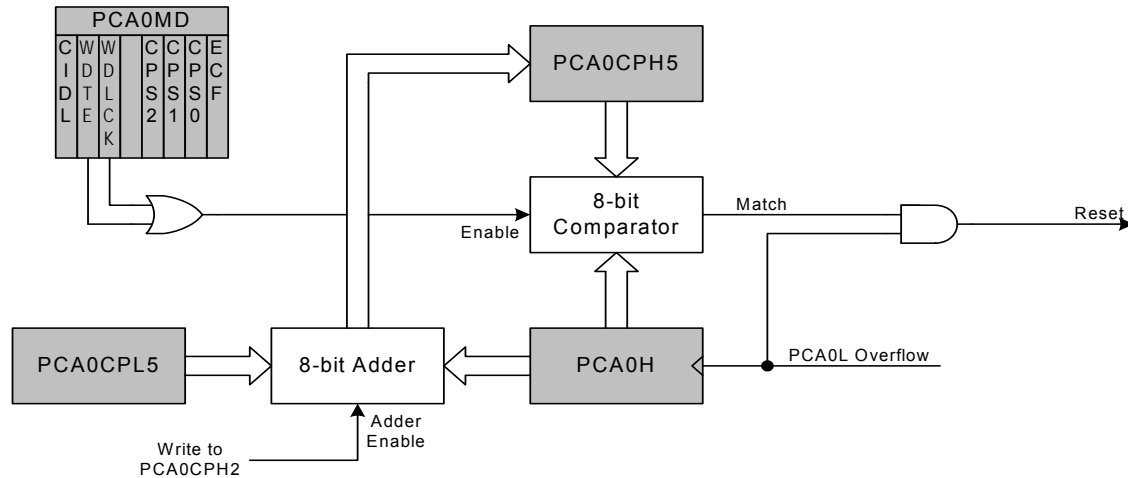

Figure 28.11. PCA Module 5 with Watchdog Timer Enabled
While the WDT is enabled, writes to the CR bit will not change the PCA counter state; the counter will run until the WDT is disabled. The PCA counter run control bit (CR) will read zero if the WDT is enabled but user software has not enabled the PCA counter. If a match occurs between PCA0PH5 and PCA0H while the WDT is enabled, a reset will be generated. To prevent a WDT reset, the WDT may be updated with a write of any value to PCA0PH5. Upon a PCA0PH5 write, PCA0H plus the offset held in PCA0CPL5 is loaded into PCA0PH5 (See Figure 28.11).